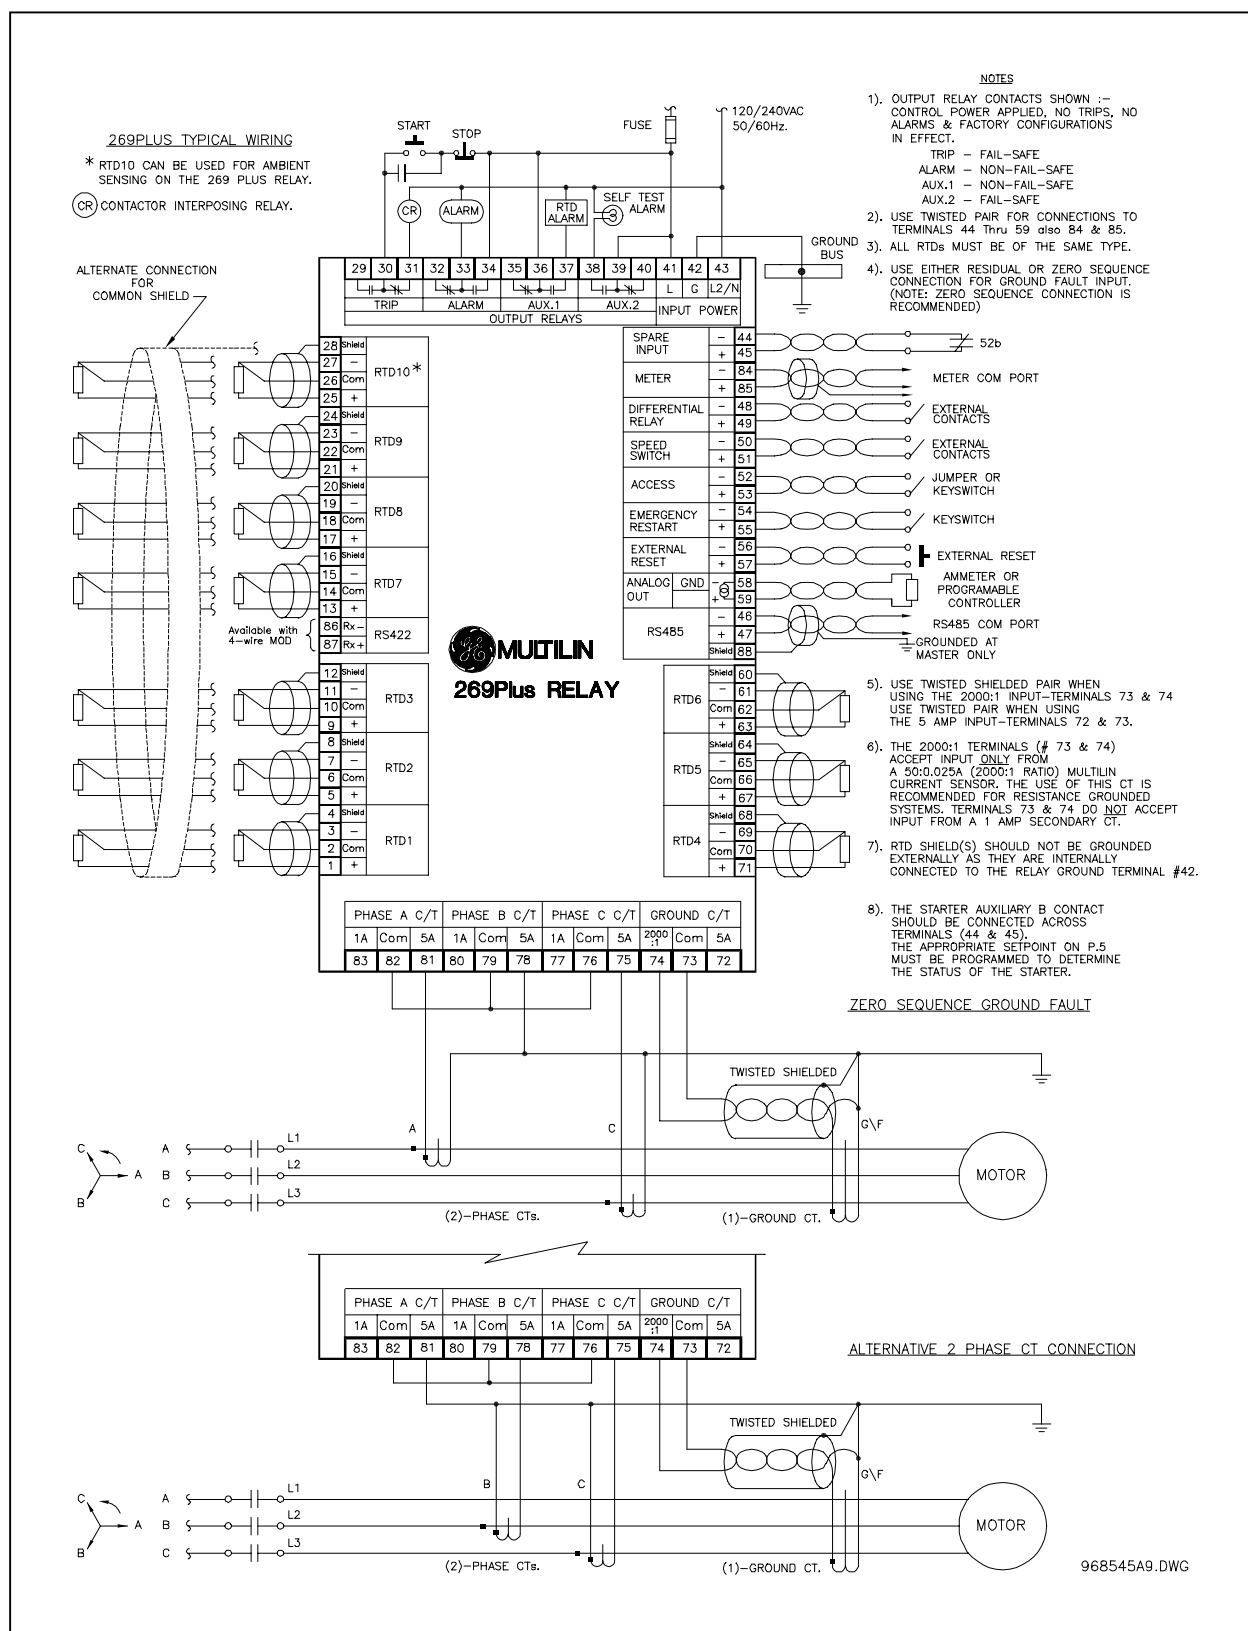
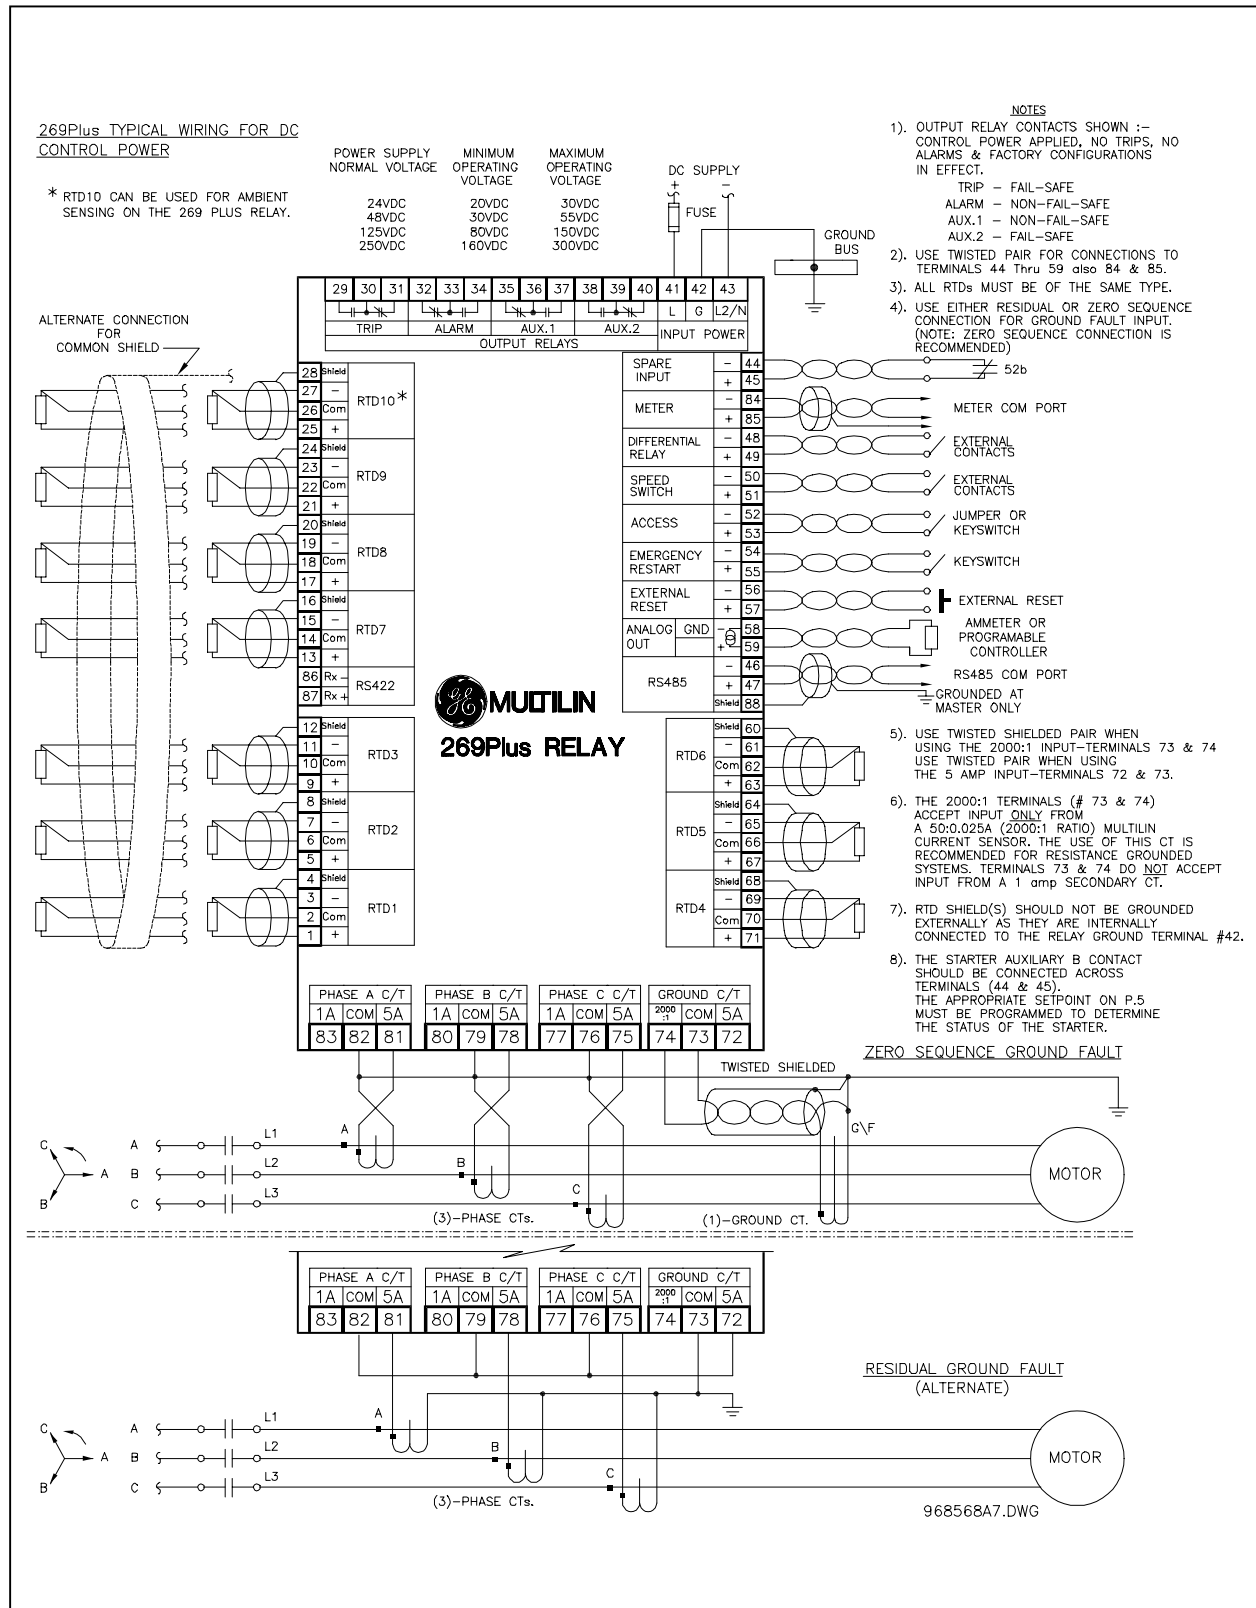

Figure 2.6 Relay Wiring Diagram (Two Phase CTs)
Figure 2.7 Relay Wiring Diagram (DC Control Power)
NOTE: The rear of the 269 Plus relay shows output relay contacts in their power down state. Figure 2.4, Figure 2.6, and Figure 2.7 show output relay contacts with power applied, no trips or alarms, Factory Configurations, i.e. TRIP - fail-safe, ALARM - non-fail-safe, AUX.1 - non-fail-safe, AUX.2 - fail-safe). See Figure 2.5 for a complete list of all possible output relay contact states. See SETPOINTS page 5 for a description of the RELAY FAILSAFE CODE.
One CT for each of the three motor phases is required to input a current into the relay proportional to the motor phase current. The phase sequence must be as shown in Figure 2.4 and Figure 2.7. The CTs used can have either a 1 amp or 5 amp secondary and should be chosen so that the motor full load current is between 75 and 95 percent of the rated CT primary amps. The CT ratio should thus be of the form n:1 or n:5 where n is between 20 and 1500. The ratio of the CT used must be programmed into the 269 Plus (see section 3.7).
The connections to the 269 Plus internal ground CT are made directly via #10 screws. The ground CT is connected to terminals 73 and 72 for a 5 amp secondary CTs, or to terminals 73 and 74 for a GE Multilin 50:0.025A (2000:1 ratio) CTs, as shown in Figure 2.4, Figure 2.5, and Figure 2.7. The polarity of the ground CT connection is not important. **It is recommended that the two CT leads be twisted together to minimize noise pickup.** If a 50:0.025A (2000:1 ratio) ground CT is used, the secondary output will be a low-level signal which allows for sensitive ground fault detection.
For a solidly grounded system where higher ground fault currents will flow, a 5 amp secondary CT with a primary between 20 and 1500 A may be used to surround all phase conductors. The phase CTs may also be residually connected to provide ground sensing levels as low as 10% of the phase CT primary rating. For example, 100:5 CTs connected in the residual configuration can sense ground currents as low as 10 amps (primary) without requiring a separate ground CT. See Figure 2.4 and Figure 2.7. This saves the expense of an extra CT, however 3 phase CTs are required. If this connection is used on a high resistance grounded system verify that the ground fault alarm and trip current setpoints are below the maximum ground current that can flow due to limiting by the system ground resistance. Sensing levels below 10% of the phase CT primary rating are not recommended for reliable operation.
When the phase CTs are connected residually, the secondaries must be connected in such a way to allow the 269 Plus to sense any ground current that might be flowing. To correctly display ground current and trip or alarm on ground fault, the connection to the 269 Plus must be made at terminals 72 and 73 as shown in Figure 2.4 and Figure 2.7. These terminals are designed to accept input from a 5A secondary CT. The 269 Plus must also be programmed for a 5A secondary ground CT with the primary being equal to the phase CT primary. This is done in SETPOINTS,
The main control relay or shunt trip coil of the motor starter or circuit breaker should be connected to the Trip relay contacts of the 269 Plus. These contacts are available as normally open (NO), normally closed (NC), and can switch up to 10 amps at either 250 VAC or 30 VDC with a resistive load. Silver cadmium oxide contacts are used because of their ability to handle high inrush currents on inductive loads. **Contact GE Multilin if these contacts are to be used for carrying low currents since they are not recommended for use below 0.1 amps.** Connection to the motor contactor or breaker is shown in Figure 2.4, Figure 2.5, and Figure 2.7.
NOTE: The rear of the 269 Plus relay shows output relay contacts in their power down state. Figure 2.4, Figure 2.6, and Figure 2.7 show output relay contacts with power applied, no trips or alarms, and Factory Configurations in effect (i.e. TRIP - fail-safe, ALARM -
NOTE: The rear of the 269 Plus relay shows output relay contacts in their power down state. Figure 2.4, Figure 2.6 and Figure 2.7 show output relay contacts with power applied, no trips or alarms, and Factory Configurations in effect (i.e. TRIP - fail-safe, ALARM - non-fail-safe, AUX.1 - non-fail-safe, AUX.2 - fail-safe). See Figure 2.5 for a list of all possible contact states.
NOTE: The rear of the 269 Plus relay shows output relay contacts in their power down state. Figure 2.4, Figure 2.6, and Figure 2.7 show output relay contacts with power applied, no trips or alarms, and Factory Configurations in effect (i.e. TRIP - fail-safe, ALARM - non-fail-safe, AUX.1 - non-fail-safe, AUX.2 - fail-safe). See Figure 2.5 for a list of all possible contact states.
Each RTD has four connections to the 269 Plus relay as shown in Figure 2.4, Figure 2.6, and Figure 2.7. Since the RTD indicates temperature by the value of its resistance, it is necessary to compensate for the resistance of the connecting wires, which is dependent on lead length and ambient temperature. The 269 Plus uses a circuit to cancel this resistance and reads only the actual RTD resistance. Correct operation will occur providing all three wires are of the same length and the resistance of each lead is not greater than 25% of the RTD 0°C resistance. This can be accomplished by using identical lengths of the same type of wire. If 10 ohm copper RTDs are to be used, special care should be taken to keep the lead resistance as low as possible.